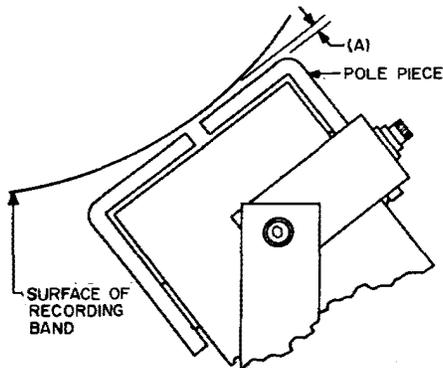

Fig. 8—Erase Coil Clearance
- (1) Electrically operate the L2 solenoid.
- (2) Using a KS-6320 orange stick, move the limit switch to the right and observe that the limit switch lever engages the limit switch stop.
- (3) Release the limit switch, and observe that it returns to the zero position without hesitation. Check this requirement in several positions between the zero position and the limit switch stop, one of which is close to the zero position.
- (b) There shall be a clearance between the recording band [Fig. 8, (A)] and the surface of the erase-coil pole pieces throughout one complete revolution of the drum of